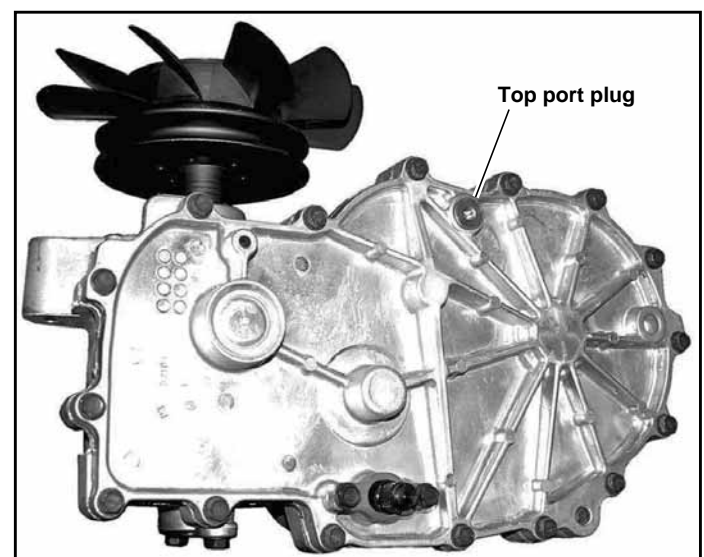

Figure 4-12
9. **IMPORTANT:** Remove the top port plug from both transaxles prior to filling with oil. This will allow the transaxles to vent during oil fill. Figure 4-12
11. Fill with 20W50 motor oil until oil just appears at the bottom of each transaxles top port (approximately 2 qts. per transaxle). Install the top port plug into each transaxle. Torque plugs to 180 in. lbs. Clean up any oil that leaked from the ports. Figure 4-12